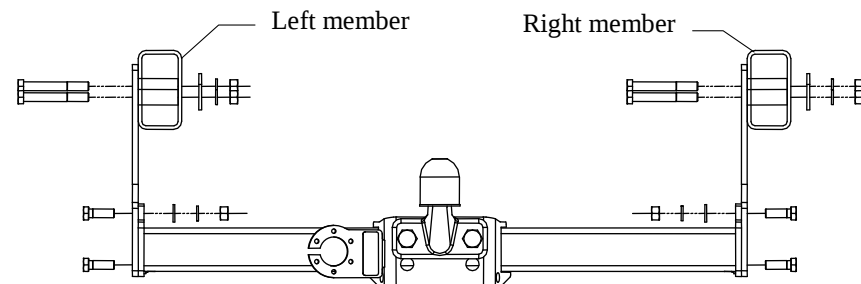

Fig. 2 Install – rear view
3. Put distance sleeves (pos. 5) length $L=55\text{mm}$, from towbar accessories to chassis members, in drilled holes.
4. Through prepared holes fix side brackets (pos. 4) using bolts $M12 \times 90\text{mm}$ (pos. 7) as shown on fig.. 2.
5. Between mounted side brackets put main bar of the towbar (pos. 1) and next through towbar holes fix it using bolts $M12 \times 35\text{mm}$ (pos. 8) from towbar accessories.
6. To mounted bar fix tow-ball (pos. 2) using bolts $M16 \times 50\text{mm}$ (pos. 6).
7. Fix socket plate (pos. 3) using bolt $M10 \times 30\text{mm}$ (pos. 9) as shown on the drawing.